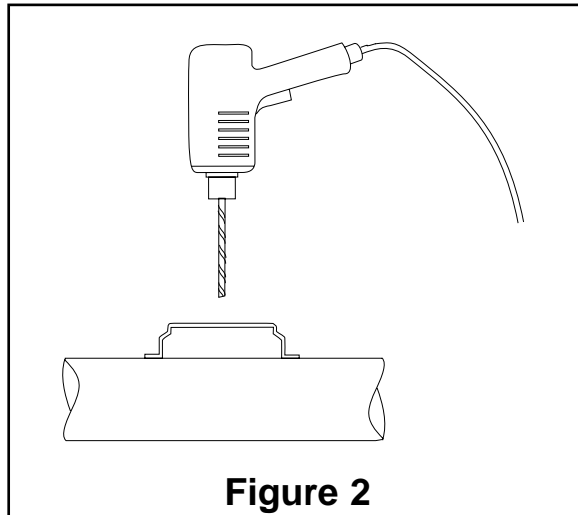

Figure 2
4. Cut out circle "B" on template and place onto lower spring seats with a dab of grease to hold in position. Center punch and drill a 3/4" hole. Remove all burrs and sharp edges (Figure 2).
If the vehicle has a rough and harsh ride it may be due to either too much pressure or not enough (fig. 2). Try different pressures to determine the best ride comfort.